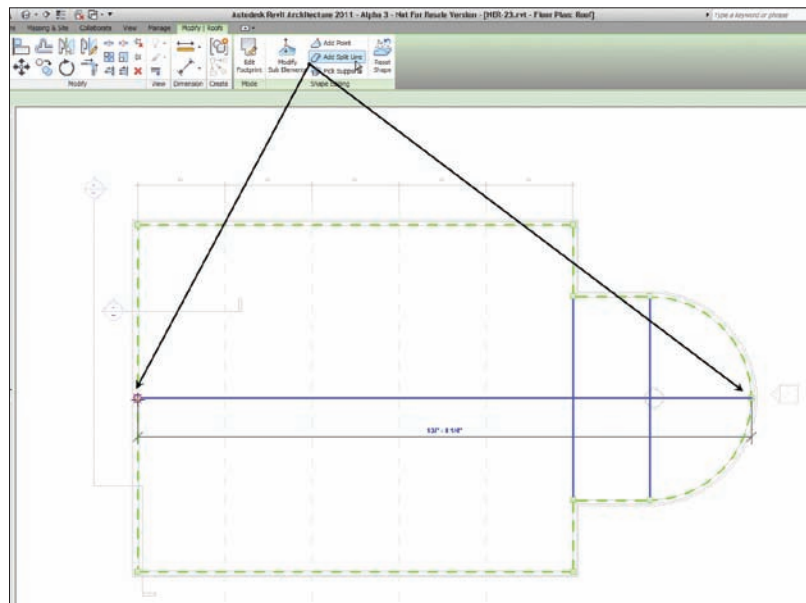

FIGURE 7.9 Drawing a new ridge from the two points shown
10. Click the Add Split Line button and draw a ridge across the entire length of the building from point 1 to point 2, as shown in Figure 7.9.